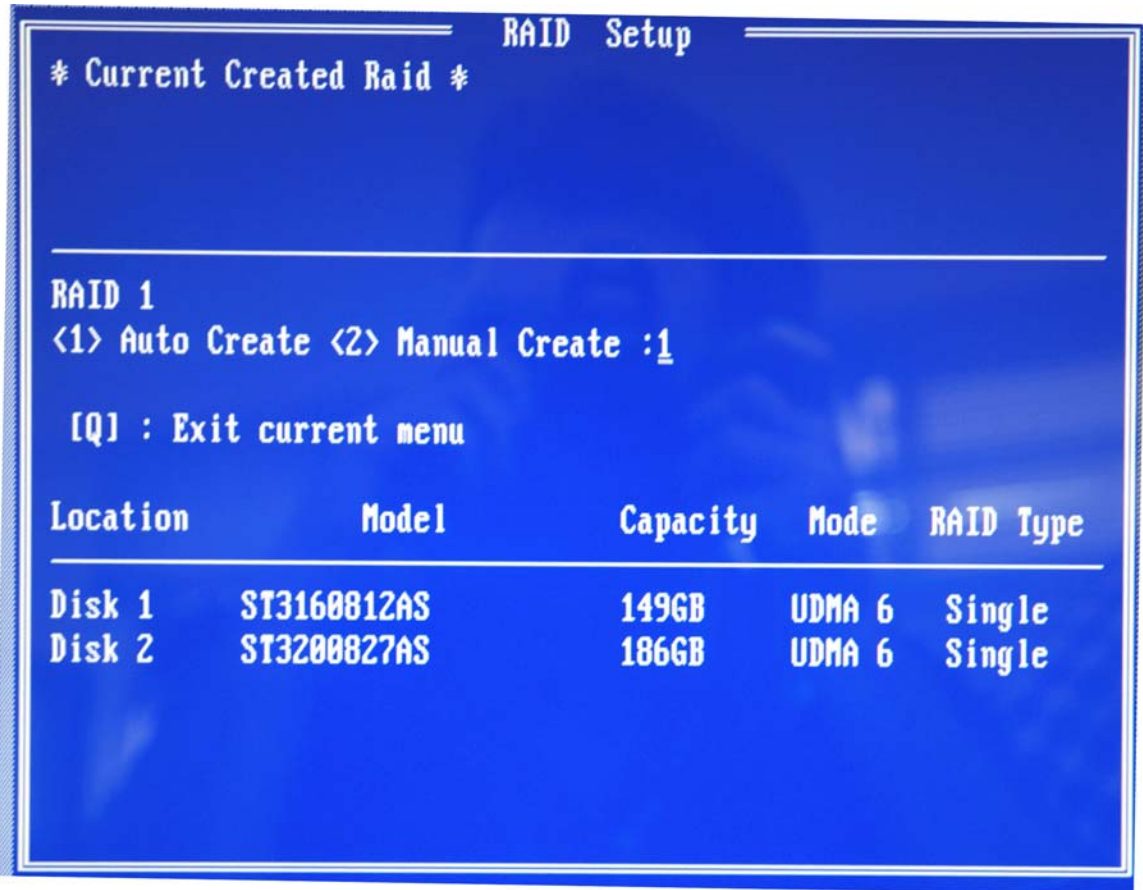

Figure E-4: Select "Auto"
- Step 2:** The system prompts the user to press **<CTRL>** and **<S>** to enter the BIOS RAID Setup Utility (**Figure E-4**).